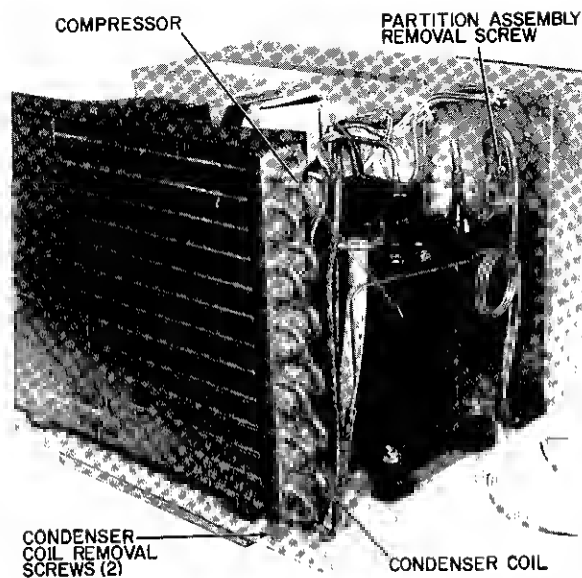

**Fig. 14 — Blower Set Screw and Condenser Fan Clip**
- a Loosen set screw on blower wheel. See Fig 14.
- b Remove clip from condenser fan. See Fig 14.
**14 Condenser Fan** — See Condenser Fan in Fig 14.
- b Remove clip from condenser fan as shown in Fig 14.
- 15 Evaporator Blower** — See Evaporator Blower in Fig 14.